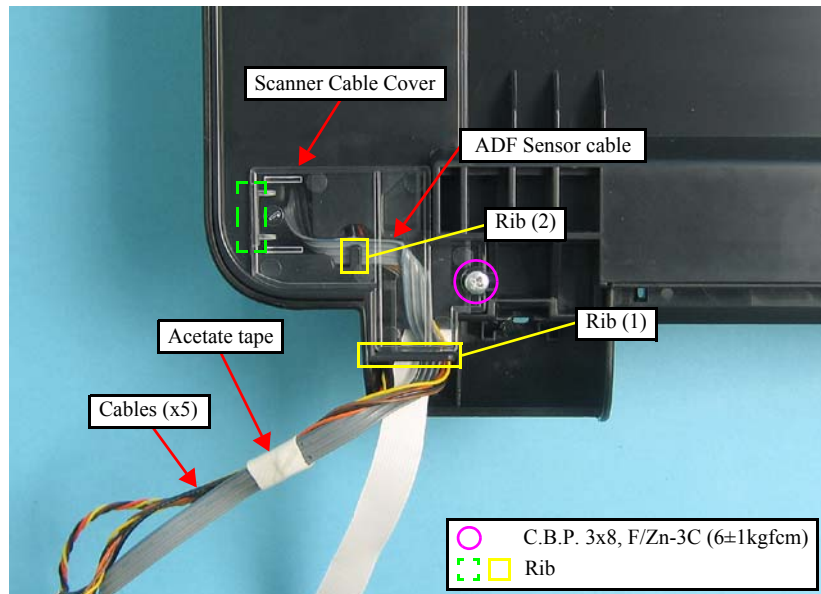

Figure 4-114. Separating the Cables
- When installing the Scanner Cable Cover, first insert the rib of the Scanner Cable Cover shown in Figure. 4-114 to the Lower Scanner Housing, then tighten the screw.